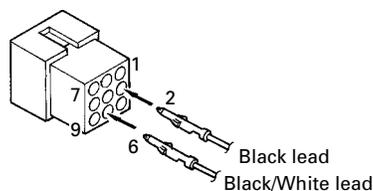

Fig. 8-3
3. Reinsert the terminal with the black and white stripe lead into hole number 2, and the terminal with the black lead into hole number 6 (Fig. 8-3).